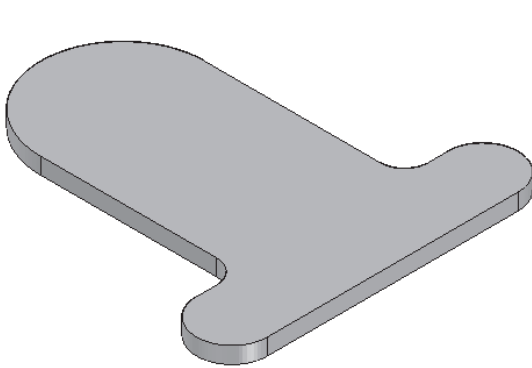

Figure 8-76 Base feature of the model
- Start a new part file and create the base feature on the top plane, refer to Figure 8-76.
- Start a new part file and then create the base feature of the model, as shown in Figure 8-76.